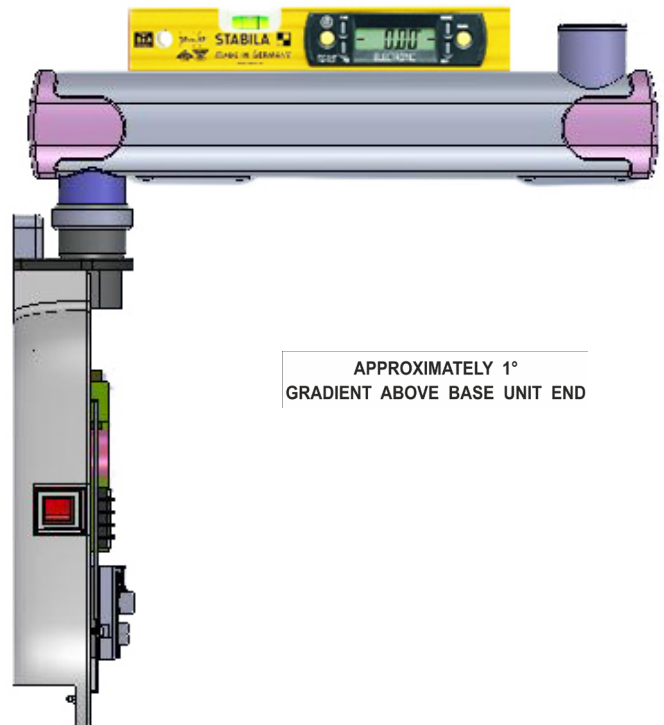

Figure 22
- Check and confirm the level of the straight-arm using spirit level by rotating to all directions as shown in Figure 22 . If not level, vertical leveling can be done by adding shims between optional wall plate and base unit plate.